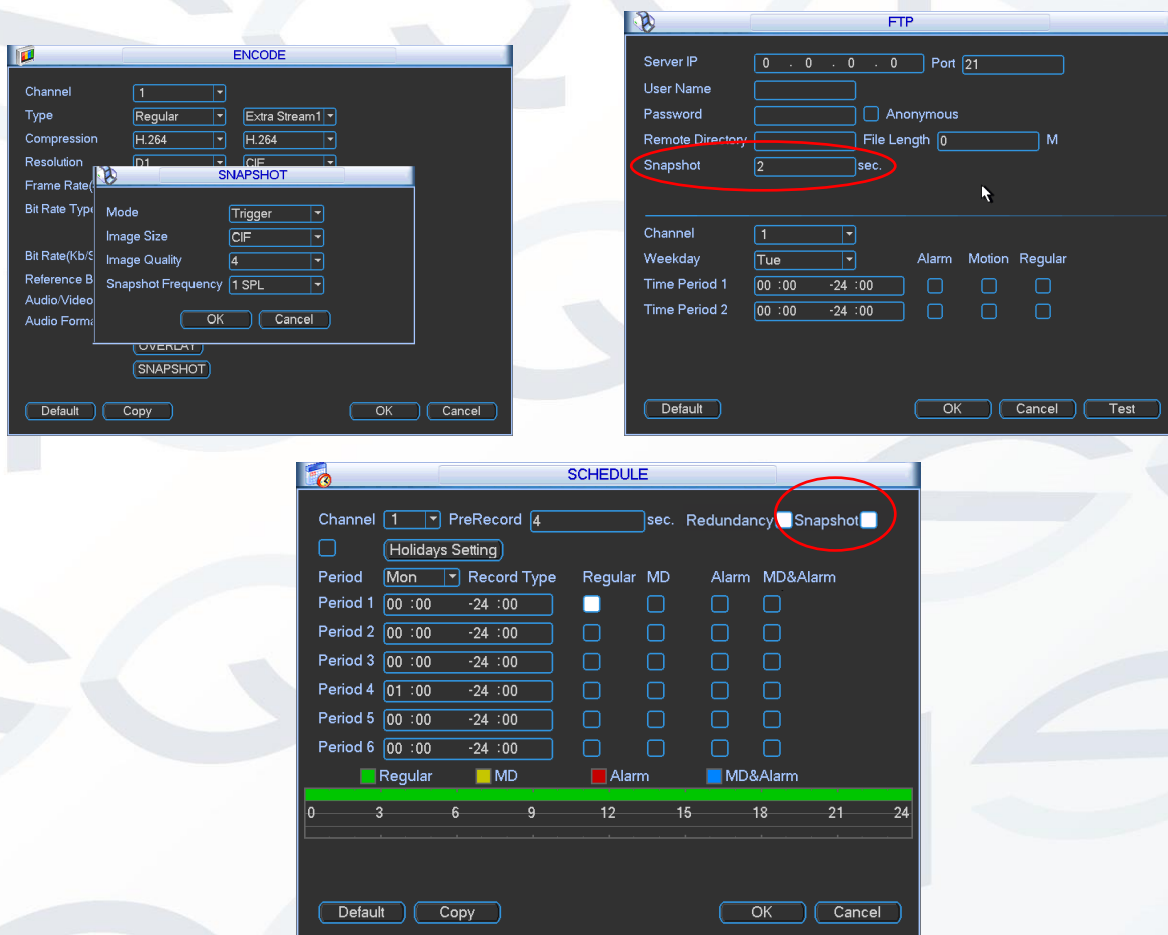

Figure 4-21
In Encode interface, click snapshot button to input snapshot mode, size, quality and frequency. See the interface on the left of Figure 4-21.
In FTP (Main Menu->Network->Network Setting) interface, please input upload interval. See the interface in the middle of Figure 4-21.
In Schedule interface, please enable snapshot function. See interface on the right of Figure 4-21.
Please refer to the following figure for detailed information. See Figure 4-21:
- In FTP interface please input upload interval. See the interface in the middle of Figure 4-21.